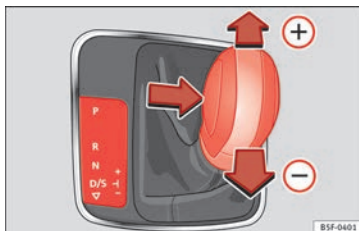

Fig. 144 Centre console: changing gear with tiptronic
- Move the selector lever forwards (+) to select a higher gear » **Fig. 144**.